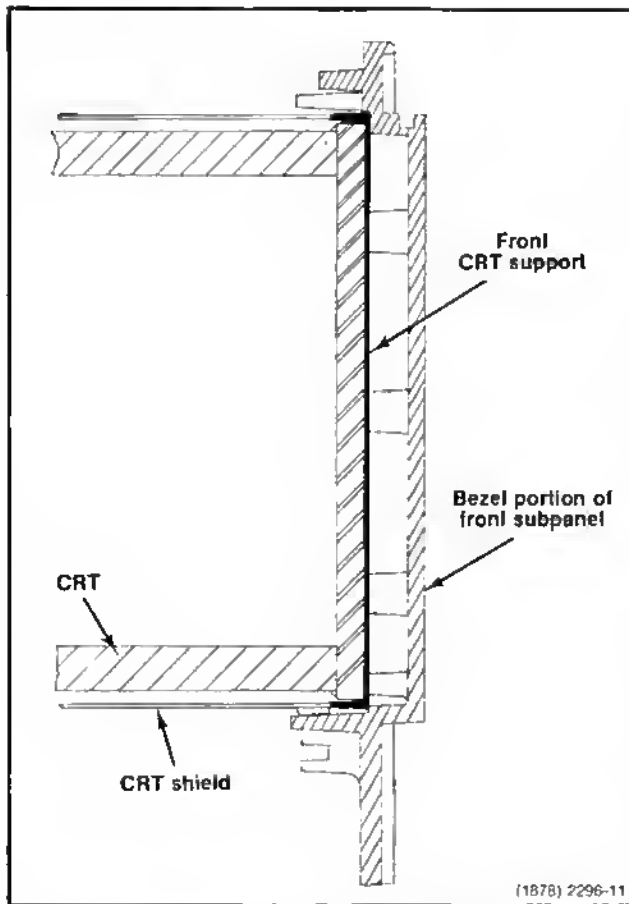

Fig. 5-2. Cross sectional view showing placement position of front crt support, crt shield and crt.
- b. Remove the implosion shield filter (2) and the implosion shield spring (1).
- c. Disconnect the FOCUS extension shaft (3) from the locus potentiometer.
- d. Loosen the black screw (4). Remove the three screws holding the rear panel bracket and remove the rear panel bracket.
- e. Remove the screw (5) holding the horizontal deflection circuit board. Disconnect the two horizontal crt deflection pin leads. Lift the board straight up, disconnecting the square pins at the bottom.
- f. Disconnect the trace rotation coil from the F and I circuit board by removing the two pin connector. Remove the two crt vertical deflection pin leads. Unsnap the anode connector from the circuit board clip (6). Disconnect the crt end (male end) of the anode connector from the remainder of the connector. Momentarily touch the crt end of the anode connector to chassis ground to discharge any voltage.
- g. Remove the two screws (8) that secure the high voltage cover and remove the cover (7). Remove the eight screws (9) holding the rear panel (10) and remove the panel.
- h. Disconnect the crt socket (11); then remove the crt shield with the crt inside. Disconnect the delay line connectors as the tube is removed.
- a. Install the front crt support spacer (12) into the rear bezel opening of the front subpanel (13).
- b. Install the crt in the crt shield; then install the assembly in the oscilloscope and reconnect the delay line. During installation, be careful not to bend the protruding connector pins. Place the crt shield (14) against the front crt support spacer. Push the crt into the front crt support. See Fig. 5-2. Connect the crt socket to the crt. Hold the crt assembly in position and install the rear panel with enough screws to hold the crt assembly in place.
- c. Insert two screws (8) to secure the high voltage cover and replace the remaining screws (9) to secure the rear panel.
- e. Reconnect the anode connector to the connector and snap the anode connector into the circuit board clip (6).